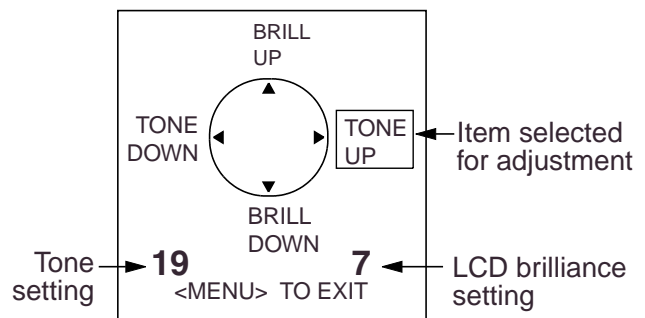

Figure 2-3 Display for adjustment of brilliance and tone
1. Press the [BRILL] key (or [TONE] key). The display shown in Figure 2-3 appears.